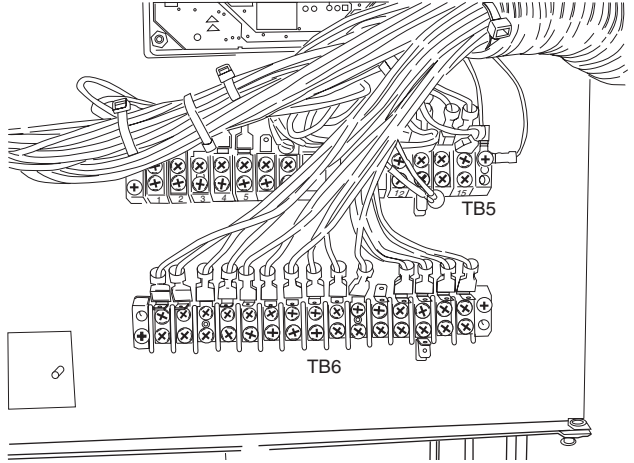

Fig. 4 — TB6 On Display Panel Below TB5
- and sizes 30RB060,070 (208/230-v), remove the thumb-screw holding the display bracket and mount the TB6 terminal block to the back of the panel below TB5. See Fig. 4. In both cases, make sure the jumpers between terminals TB6-5,6 and TB6-13,14 have been removed.